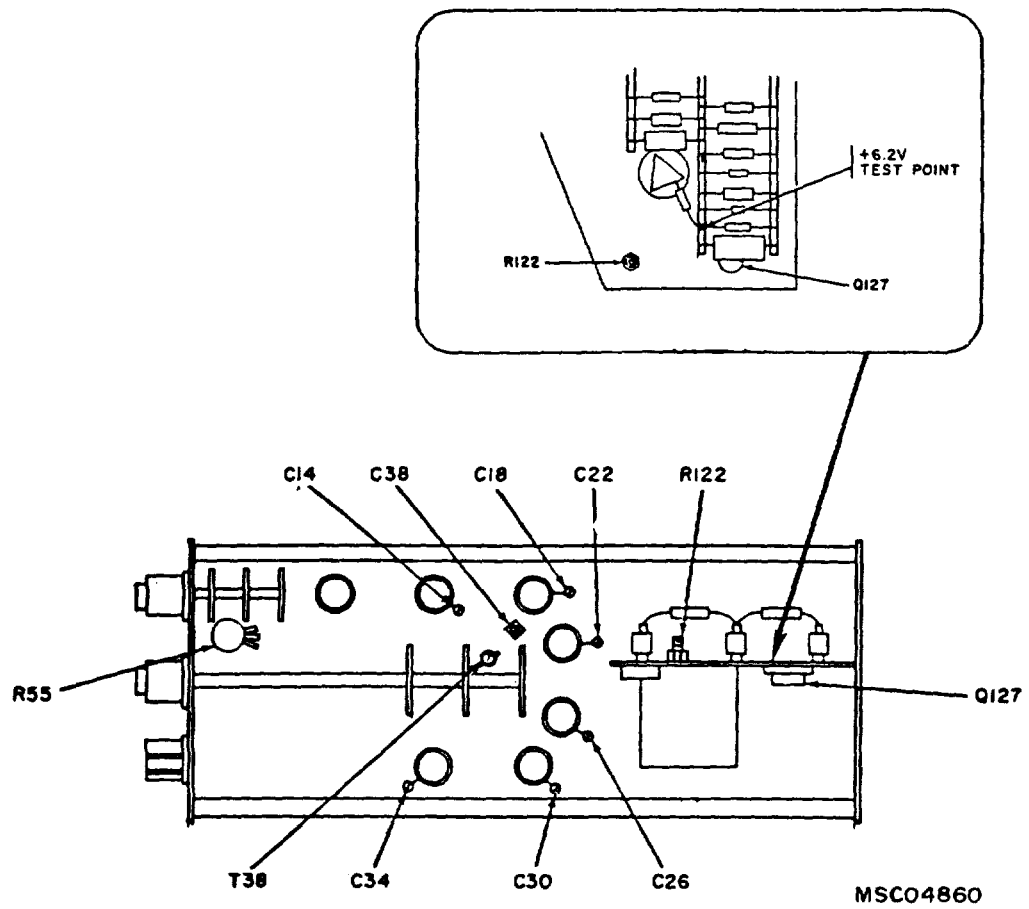
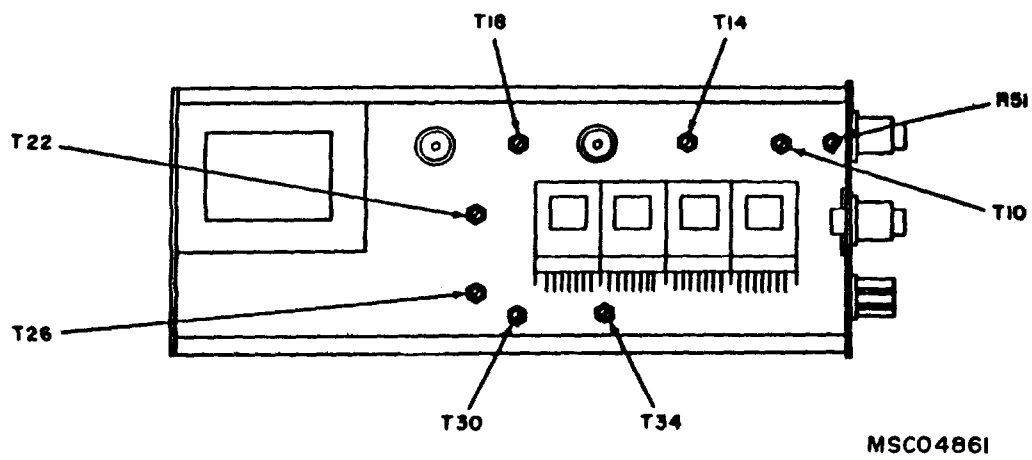

Figure 1. Test instrument - Right side view.
Figure 2. Test instrument - left side view
(1) Connect negative side of digital voltmeter (A3) to collector of Q127 (fig. 1) and positive to center arm of potentiometer R55 (fig. 1) using leads (B5).
(2) Set AMPLITUDE switch to 50 and AMPLITUDE RANGE switch to .5-5V.
(3) Adjust potentiometer R55 for 1 V dc +.005-V indication on digital voltmeter (R).
(4) Set AMPITUDE switch to 5.
(5) Repeat a(l) above.
(6) Adjust potentiometer R51 (fig. 2) for 0.177-V rms indication on digital voltmeter (R).
b. **Adjustments.** Adjust C14 (fig. 1) for frequency counter indication of 750 kHz (R).
a. Performance Check. Connect digital voltmeter (A3) between collector of Q127 (fig. 1) and chassis ground using leads (BS). If digital voltmeter does not indicate between -10.45 and -11.35 V dc, perform **b** below.
b. Adjustments. Adjust R122 (fig. 1) for -11 V dc indication on digital voltmeter (R).